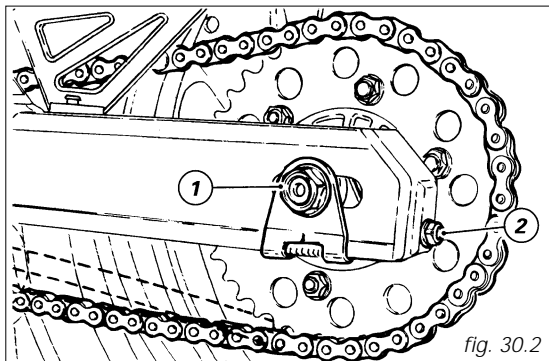

fig. 30.2
To adjust chain tension, slacken the nut (1, fig. 30.2) of the wheel spindle. Then tighten similarly the screw (2) clockwise on both sides of the swing arm to increase or reduce chain tension. If you are slackening the chain, you will have to push the wheel forward.